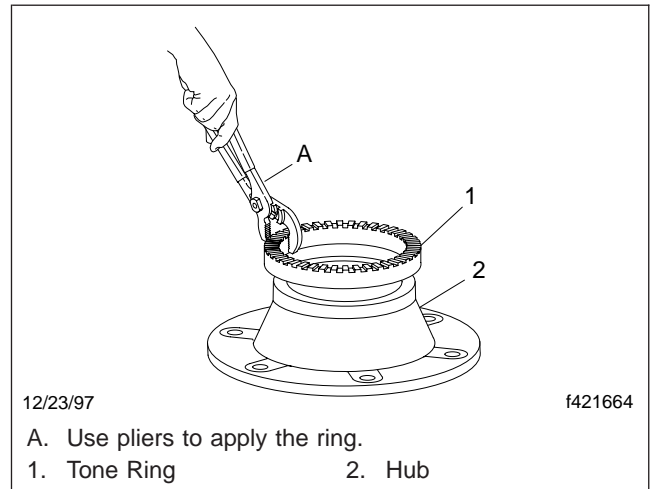

Fig. 1, Install the Ring on the Hub
2. Using pliers, remove the tone ring from the boiling water or oven and center it on the machined area of the hub bore. See Fig. 1.